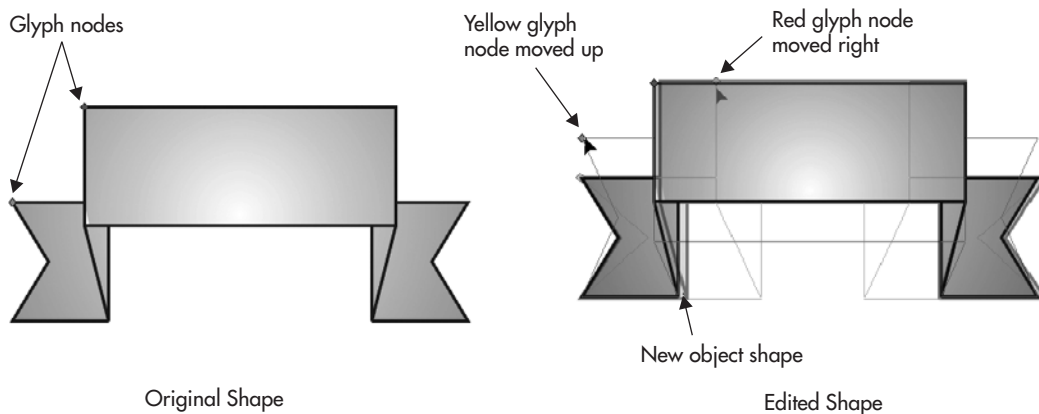

FIGURE 8-11 When movement is vertically constrained, the width of each portion of the banner changes.
5. Click-drag the red glyph node left or right to reposition it several times. Notice its movement is vertically constrained; as it is moved, the horizontal width of each portion of the banner changes to match your movement, as shown in Figure 8-11.